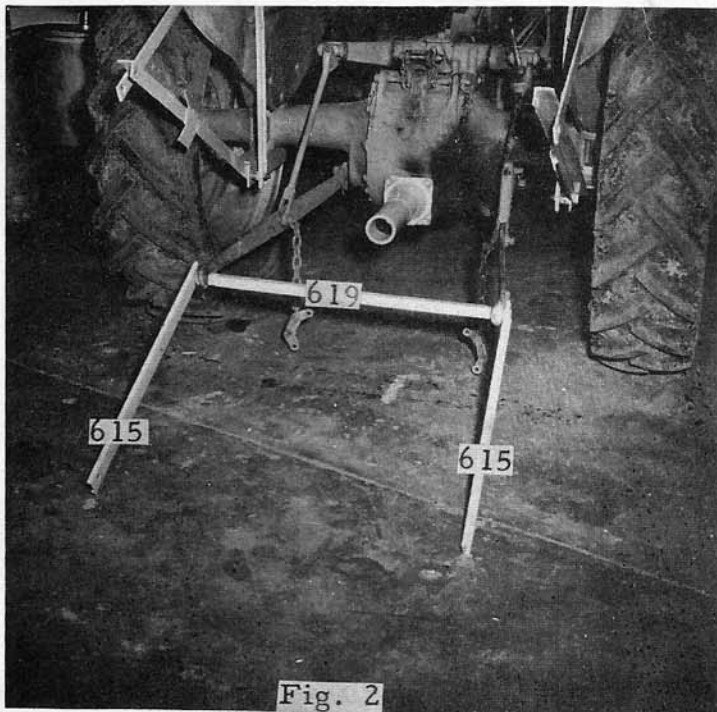

Fig. 2
F. SPREADER BAR NO. 619 DUMP LINKS NO. 615. FIG. 2.
1. Attach No. 619 spreader bar and No. 615 dump links to the ends of the hydraulic lift arms as shown in Fig. 2, using two 5/8 x 3" bolts but no lock washers. Bolt the ends of Nos. 615 that are not square to hydraulic lift arms. Be sure that the flats of the channel iron dump links No. 615 are pointing inward.